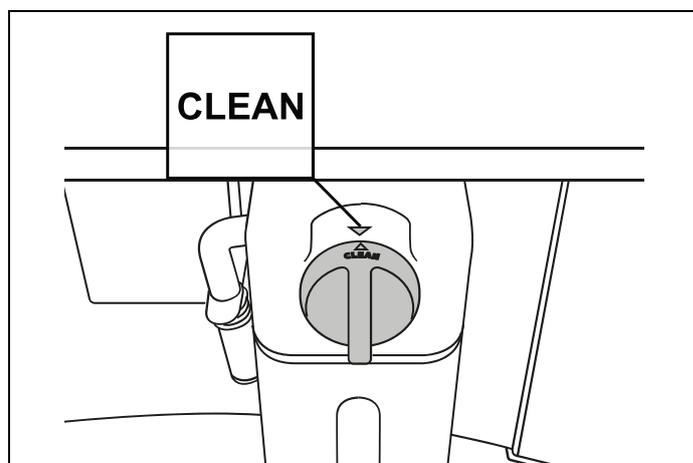
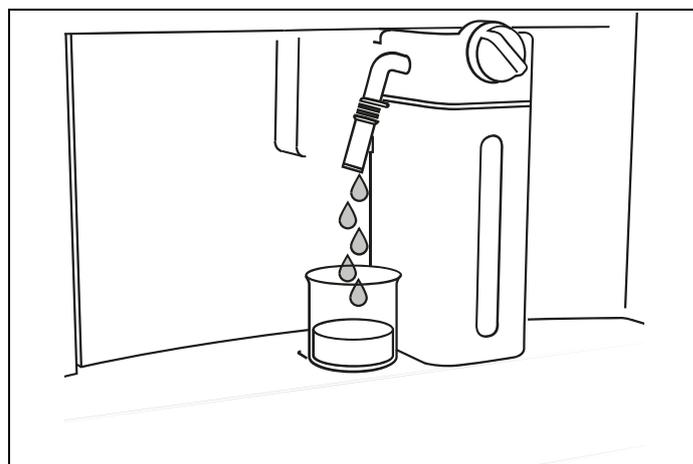

Fig. 37
Fig. 38
- 3) Turn the foam adjustment dial (D1) to CLEAN (Fig. 37): Cleaning milk container (Fig. 38) appears on the display (B) together with a bar which gradually fills as cleaning proceeds. Cleaning stops itself automatically;